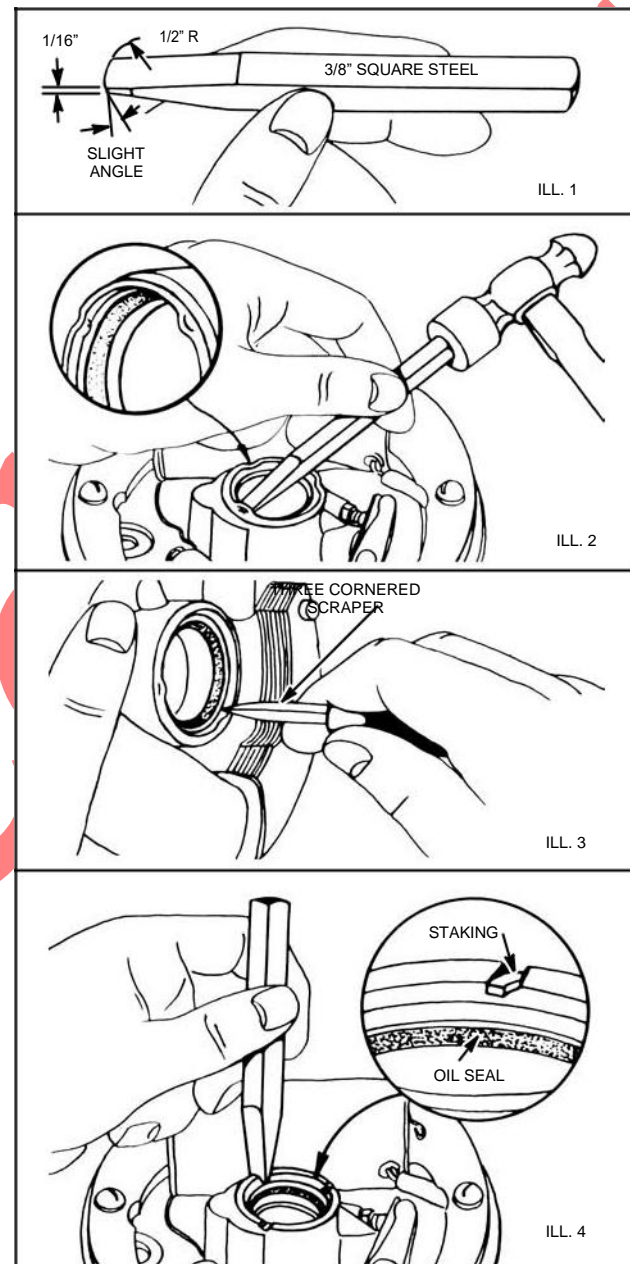

Fig. 914 - REMOVING & REPLACING OIL SEAL
First grind a chisel or old screw driver as shown in, Fig. 914, Ill. 1 Then inspect the raised boss as shown in Fig. 914, Ill. 2. There will be two (2) or three (3) places where the boss has been peened or staked in. With the sharp edge of the chisel against the oil seal, drive these back as shown. Then with a sharp pointed scraper, scrape all burrs away until the counterbore is round and smooth, Fig. 914, Ill. 3. this is to permit the new oil seal to be inserted without distortion. Remove the old oil seal with a screw driver.
Drive in the the new oil seal until it stops against the shoulder in the counterbore. A piece of pipe or rod, slightly smaller in diameter than the oil seal, should be used as a driver. Then use the chisel to stake or peen a portion of the boss in three evenly spaced places, Fig. 914, Ill. 4. This is to prevent the oil seal from working out. Do not stake so deep that the oil seal is distorted.